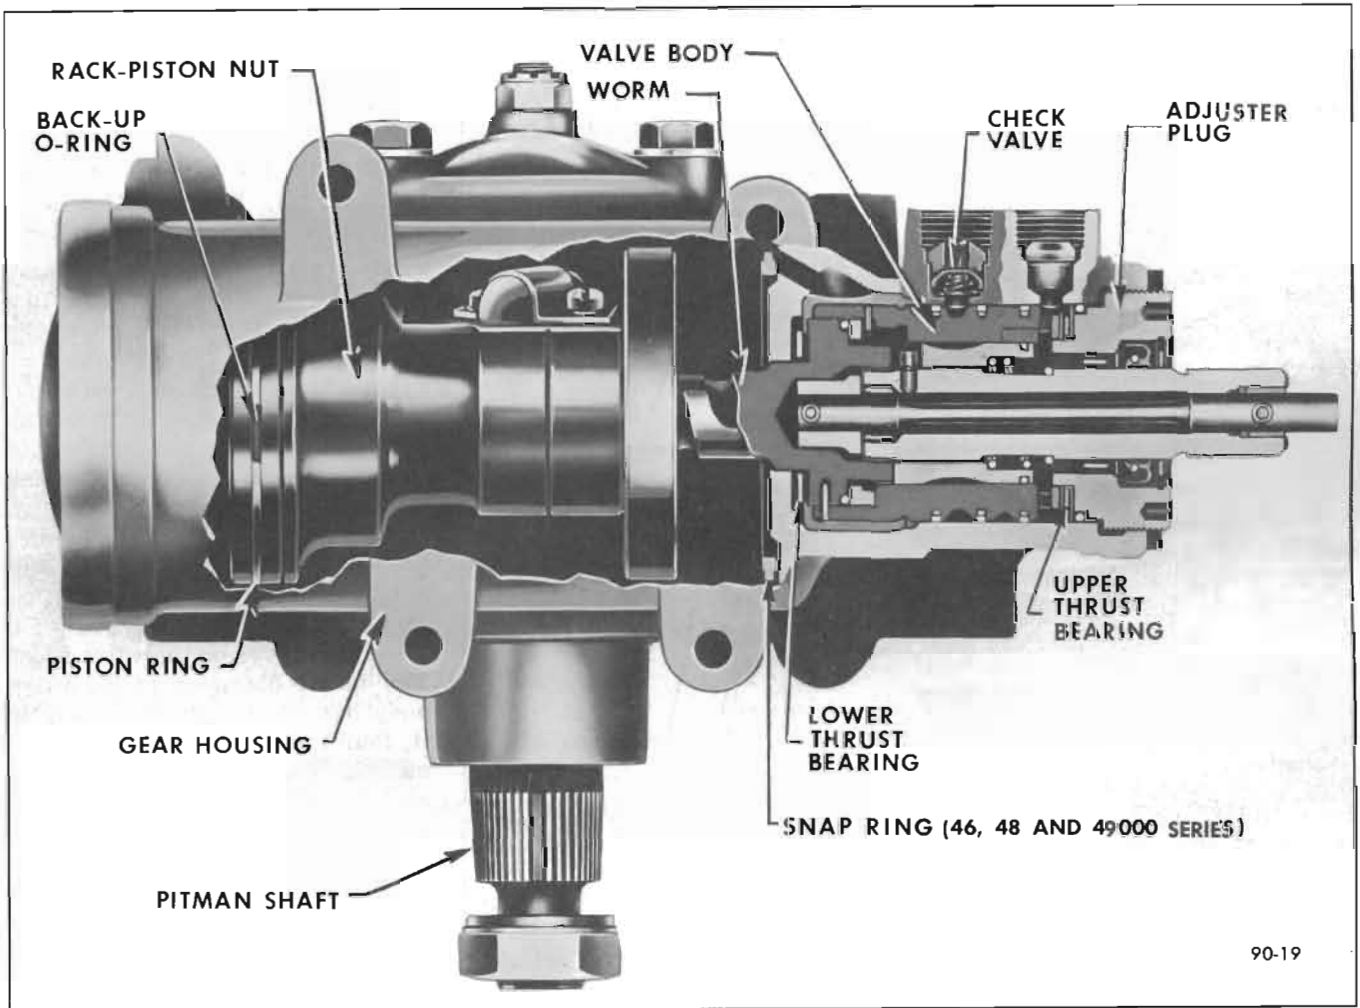

Figure 90-19—Power Steering Gear
1. Wildcat, Electra and Riviera gears have a snap ring located at the upper end of the housing which serves as a stop for the rack piston assembly. See Figure 90-19.